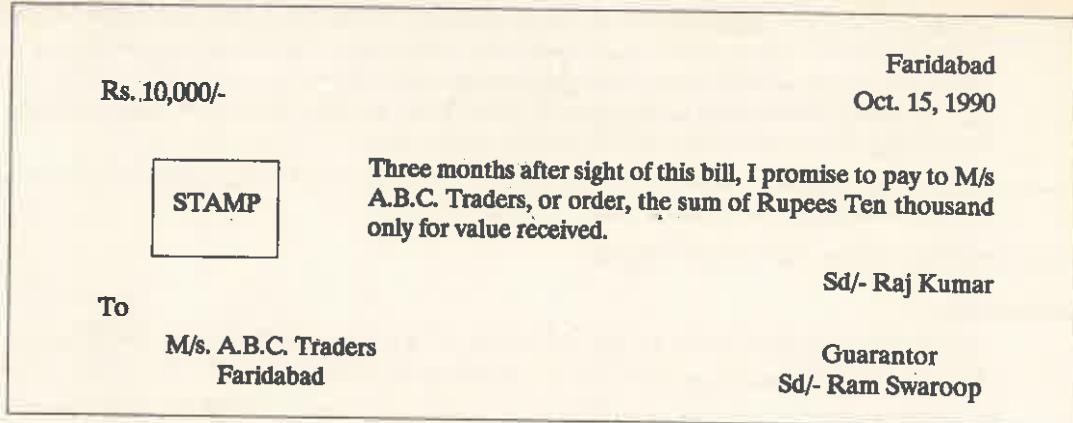

Fig. 35.11. A Promissory Note
- A **Promissory Note** is a promise of the borrower to the lender to pay a certain sum of money only to the lender or to the bearer of the promissory note, after stated period of time (Fig. 35.11). A promissory note is perhaps supported by the guarantee of some third person in whom the lender may have confidence.